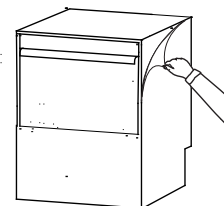

Fig.3
- 3- Remove the protective film from the appliance. (Fig. 3)